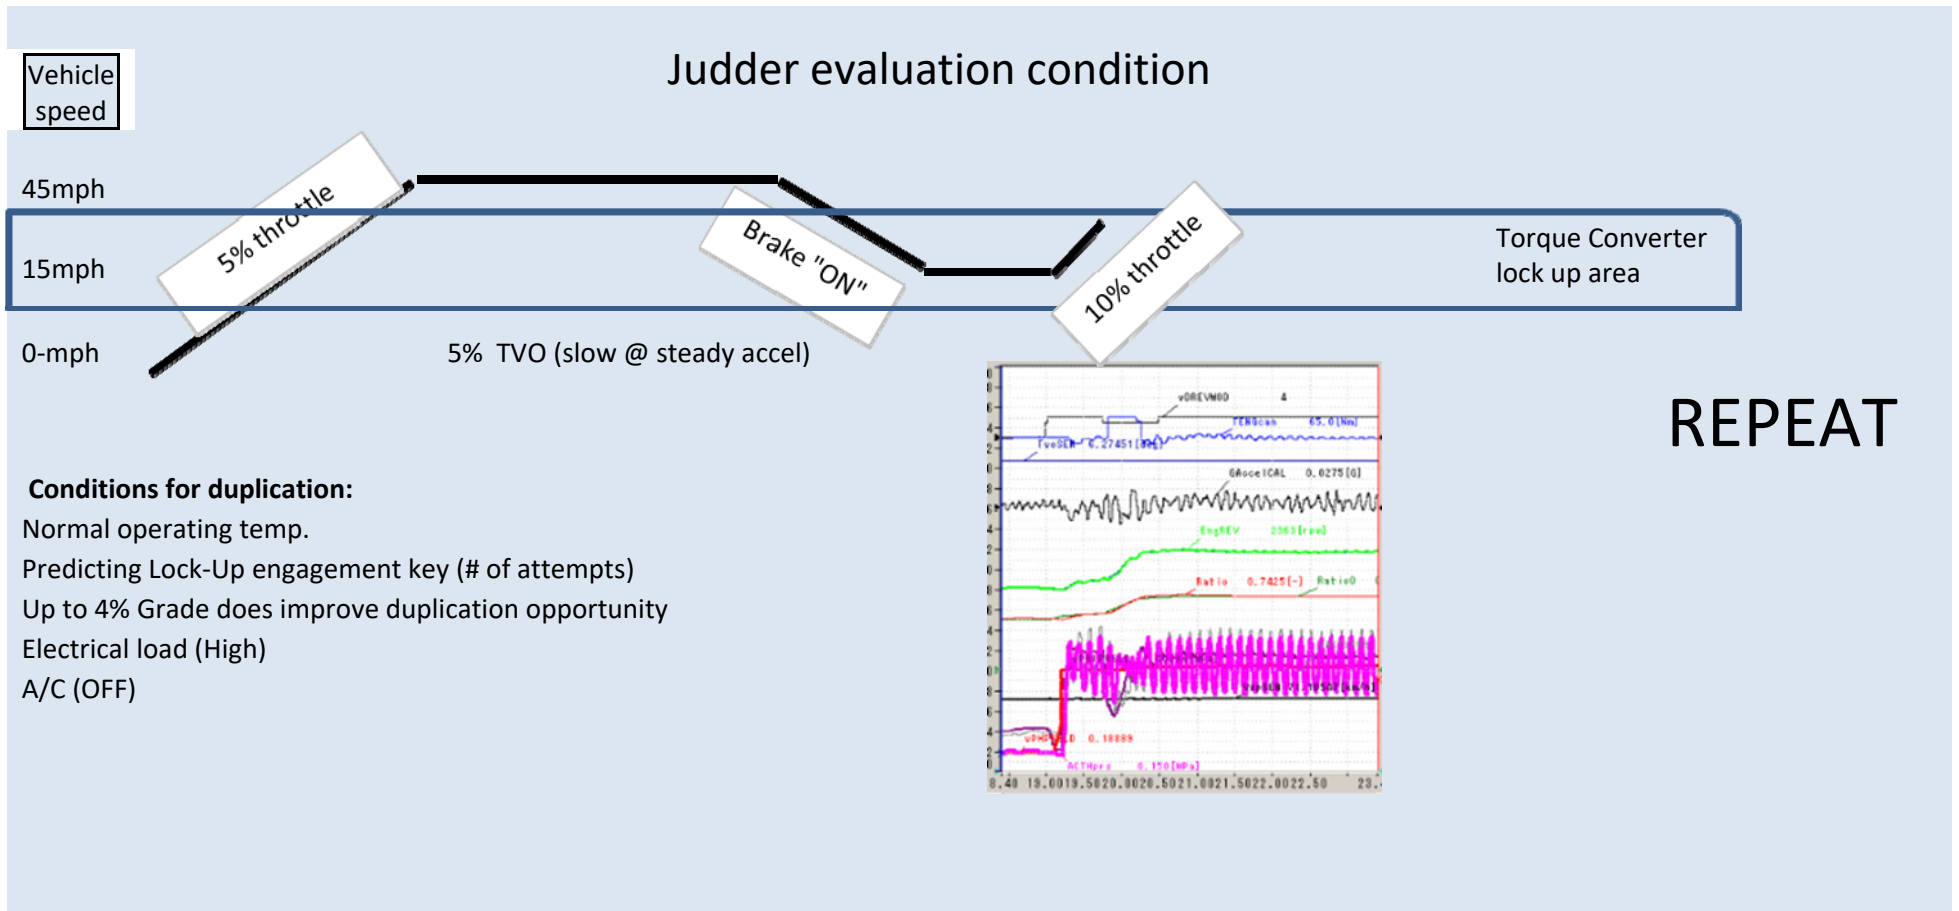

Figure 8
- Figure 8, on the next page, illustrates conditions under which judder can be reproduced.
- Figure 8, below, illustrates conditions under which judder can be reproduced.